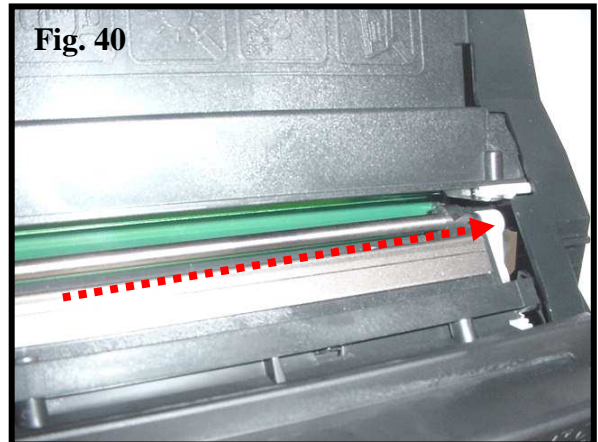

Fig. 40
40. Install the metal rod into the toner hopper until it is seated in its housing on the end cap (Fig. 40).